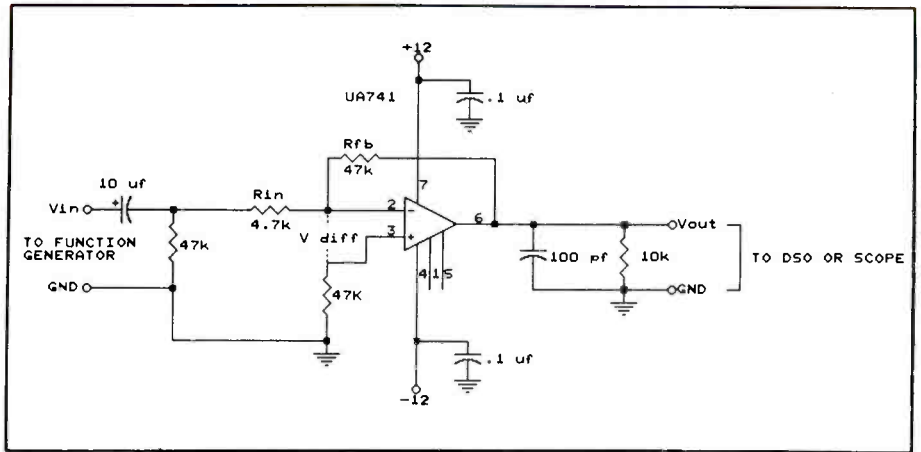

Fig. 1. Inverting amplifier with a gain of 10.
Wire together the circuit shown in Fig. 1 on any breadboard. We used the *Modern Electronics* Prototyping
**4. Measuring Undistorted Output Levels:** Reconnect the input as per Fig. 1. Connect the DSO to the output terminal (set sensitivity to 5 volts/division). You'll now measure the maximum undistorted p-p voltage before the waveform changes shape, relying on your eyes to detect distortion visually.
**5. Measuring Output Vs. Load Resistance:** Referring to Fig. 1, change the value of the 10,000-ohm load resistor to 2,000 and then to 200 ohms. Measure maximum undistorted p-p output for all conditions.